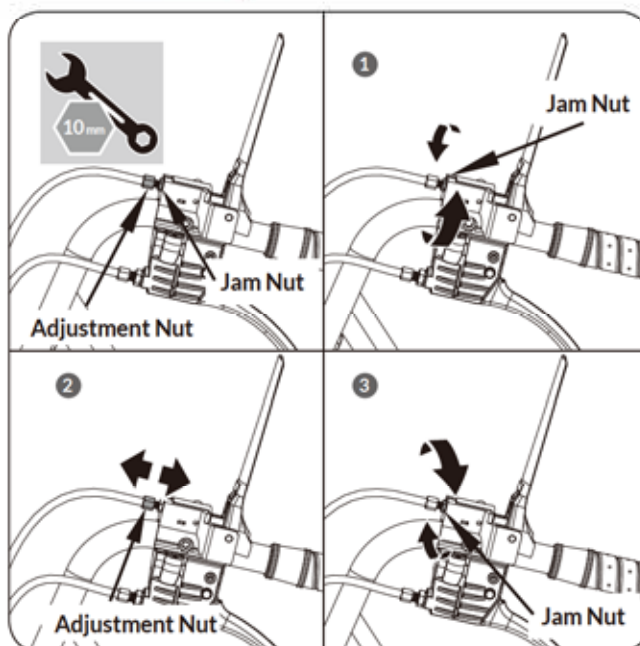

Figure 5
2. Tighten or loosen the cable by turning the cable adjustment nut clockwise or counter clockwise with 10mm wrench until you have reached your required tightness. (See **Figure 5, Illustration 2**)
3. Once tightness is set, return the jam nut against the handle to hold the cable in place. (See **Figure 5, Illustration 3**)
1. Loosen the jam nut by turning it counter clockwise with 10mm wrench. (see **Figure 5, Illustration 1**)